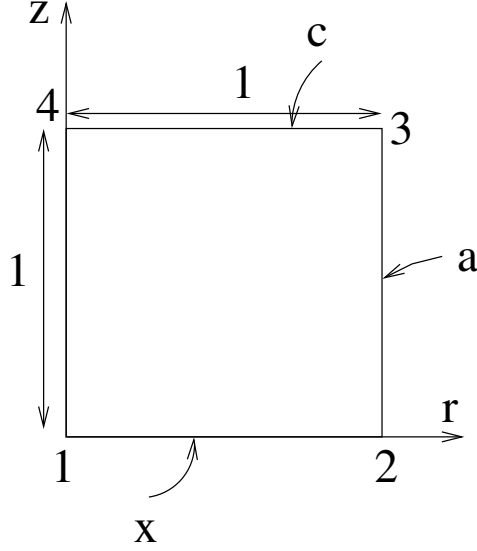

Figure 2: Problem 2
2. The axisymmetric domain of square cross section shown in Fig. 2 is subjected (35)